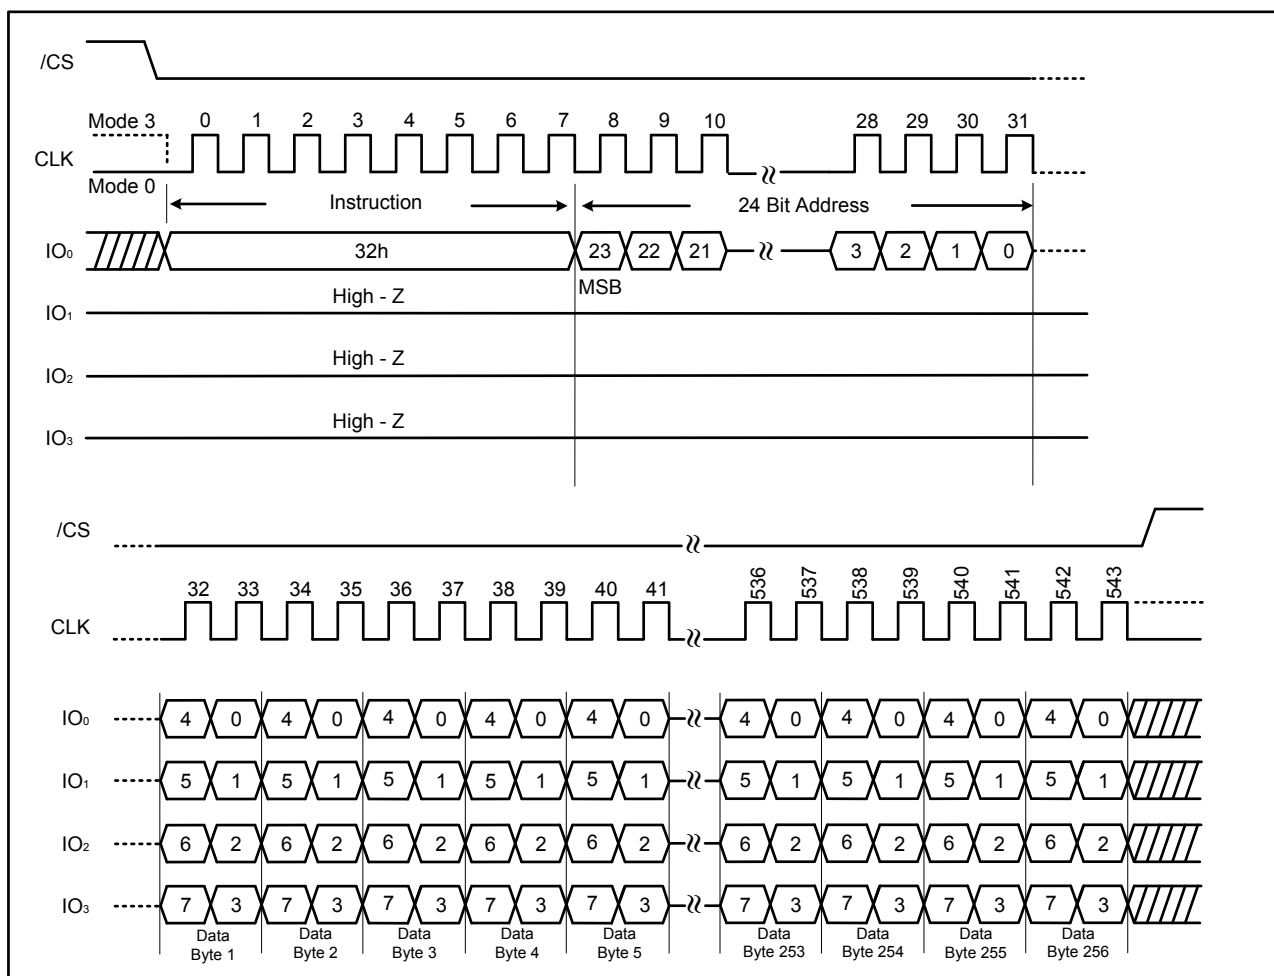

Figure 31. Quad Input Page Program Instruction (SPI Mode only)
To use Quad Input Page Program, the Quad Enable (QE) bit in Status Register-2 must be set to 1. A Write Enable instruction must be executed before the device will accept the Quad Input Page Program instruction (Status Register-1, WEL=1). The instruction is initiated by driving the /CS pin low then shifting the instruction code “32h” followed by a 24-bit address (A23-A0) and at least one data byte, into the IO pins. The /CS pin must be held low for the entire length of the instruction while data is being sent to the device. All other functions of Quad Input Page Program are identical to standard Page Program. The Quad Input Page Program instruction sequence is shown in Figure 31.